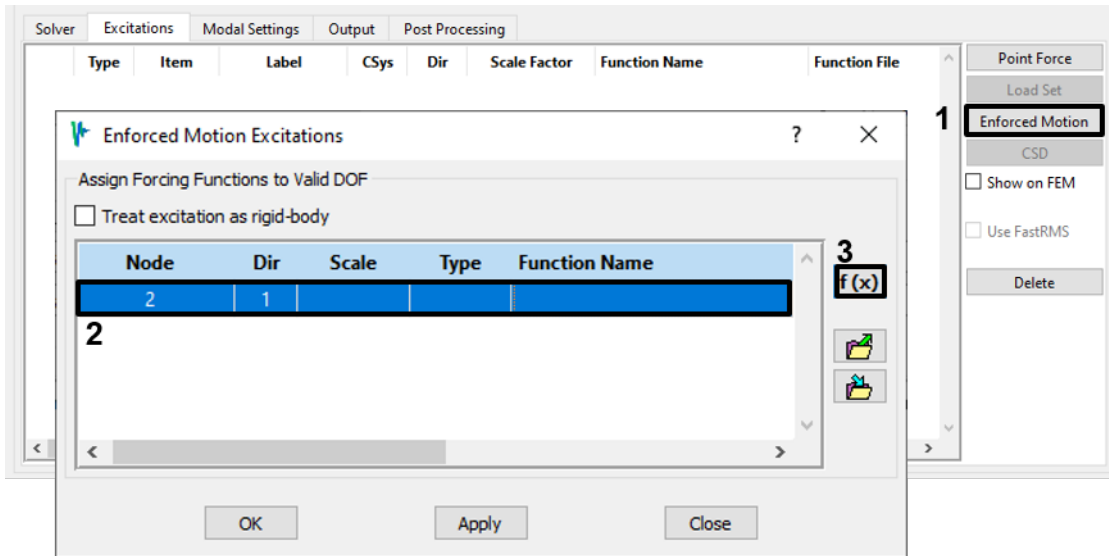

Figure 4-26. Apply a forcing function to the available enforced motion DOF.
- On the *Excitations* tab, select **Enforced Motion**, select the one available DOF, and then click the **f(x)** button (Figure 4-26).